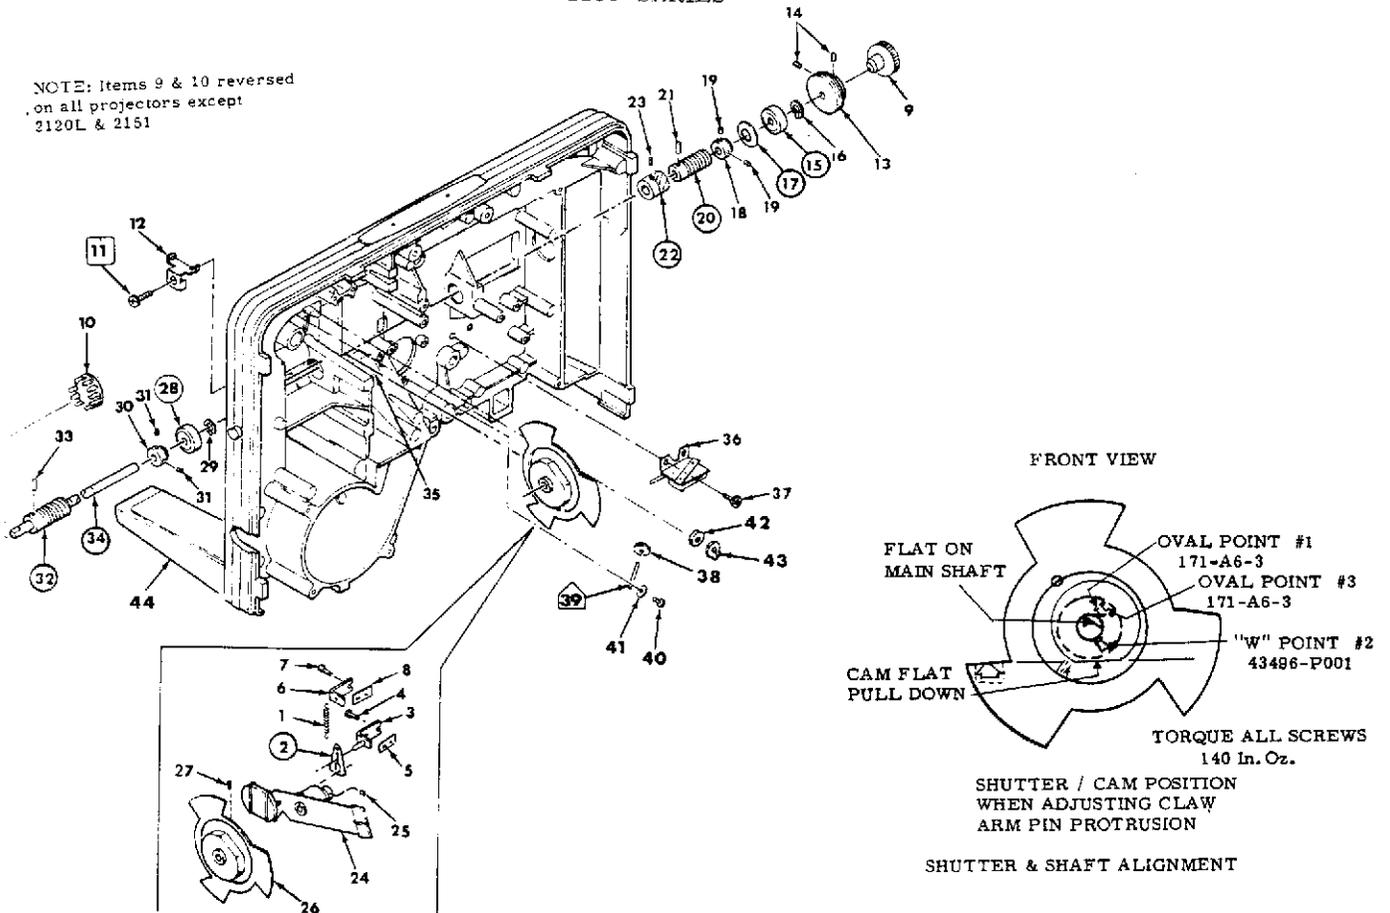

Figure 3-19. REMOVAL AND REASSEMBLY OF MAIN SHAFT
M. Removal of Main Shaft Ref. Figure 3-19
2. Loosen both Set Screws (14) in the Pulley (13) so the Pulley will rotate freely on the Main Shaft. (Figure 3-19)
3. Loosen both Set Screws (19) in the Collar (18) so the Collar will rotate freely on the Main Shaft (34).
4. Loosen Set Screw (23) in the pinion (22) so the Pinion will rotate freely on the main shaft.
5. Remove the oval point Jam Screw (27) and loosen the remaining two Set Screws in the Shutter and Cam Assembly (26) so the Cam Assembly will rotate freely on the Main Shaft.
6. Loosen both Set Screws (31) in the Collar (30) so the Collar will rotate freely on the Main Shaft.
7. Loosen Set Screw (25) in the Safety Shutter (24) so the collar of the Safety Shutter rotates freely on the Main Shaft. Unhook the Link (2) from the Safety Shutter and allow the Spring (1) to pull the Link against the Pin on the Bracket Assembly (3). (Disregard for projectors having no Safety Shutter.)
9. Rotate the Main Shaft (34) until the flat on the shaft just behind the Front Bearing (28) is at about 2 o'clock (See Shutter and Shaft Alignment insert on Figure 3-19). Rotate the Shutter and Cam Assembly (26) until the Setscrew (#1 in insert) lines up with the flat on the Shaft (34). Gently push the Shutter and Cam Assembly forward while pushing down on the Claw Arm until the cam follower on the Claw Arm slips under the the Cam. Tighten the Setscrew (#1 in insert) on the flat of the Shaft (34). Make sure the Claw Arm is not hitting the Aperture Plate.